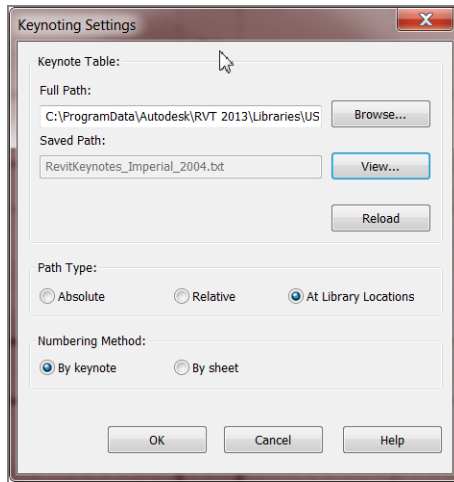

FIGURE 11.87: Mapping the Keynote.txt file
3. Make sure you're mapped to `C:\ProgramData\Autodesk\RVT 2014\Libraries\US Imperial\RevitKeynotes_Imperial_2004.txt` (RevitKeynotes_Metric.txt), as shown in Figure 11.87.